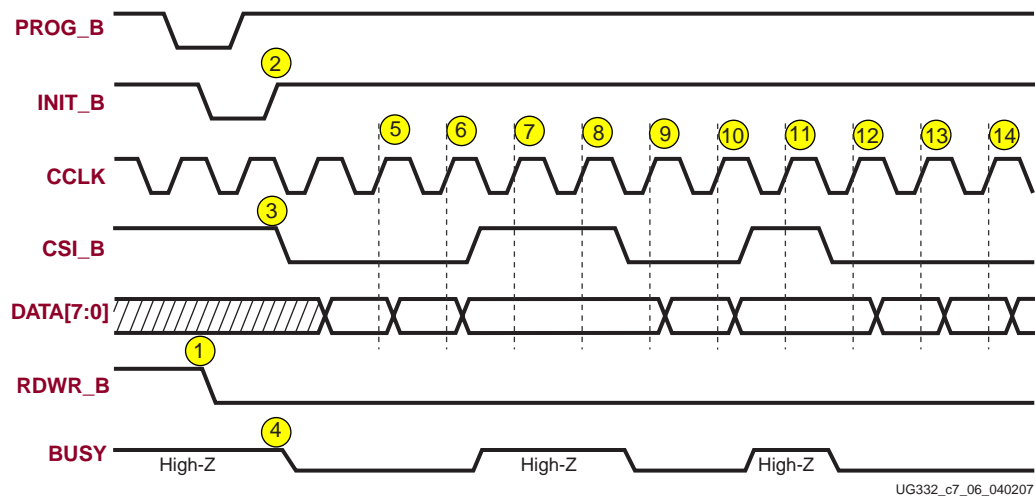

Figure 7-6: SelectMAP Non-Continuous Data Loading with Controlled CSI_B
1. Deassert the **CSI_B** signal with a free-running **CCLK**, shown in Figure 7-6 and described in “Deasserting CSI_B,” page 179.
The following numbered items correspond to the markers provided in Figure 7-6.